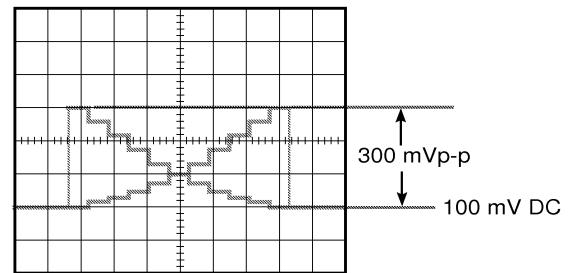

Fig. 4-9
- Set the Lens Iris so that the peak level of the Gray Scale from the Blanking level becomes 300 mVp-p as shown in Fig.4-9.